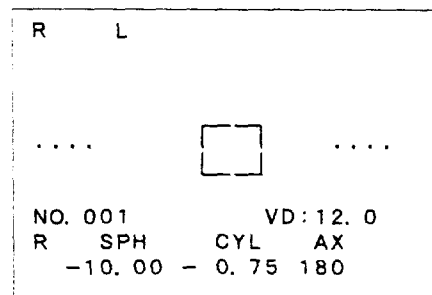

Figure 6-5 Sample Screen
- ① Show the patient where to sit. Ask the patient to rest both the hands on their lap to relax him or her.
- ② Press the Ready key on the measuring unit to enter the measurement mode (see Figure 6-5).